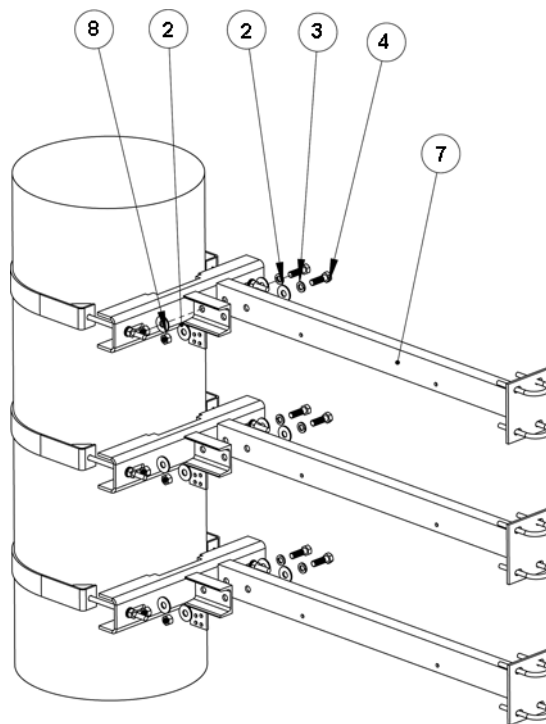

Figure C-19: Attaching Horizontal Arm to 3 Sector Monopole Clamp (for 16"-20"/24"-30")
- 1 Use the bolts, washers, spring washers and nuts as listed in Table C-7 to attach the 3 horizontal arms to the clamps as shown in Figure C-19.